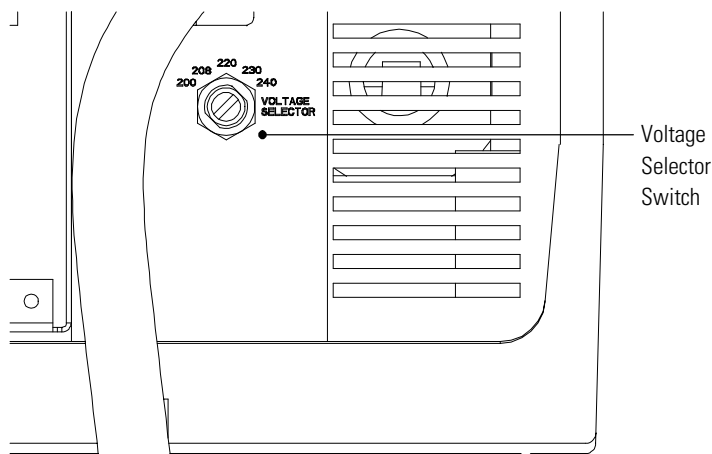

Figure 5. Voltage Selector Switch
7. Select the correct UPS output voltage. Using a screwdriver, turn the switch to the corresponding position of the output voltage required (see Figure 5). The output voltage is factory-set to 220V.